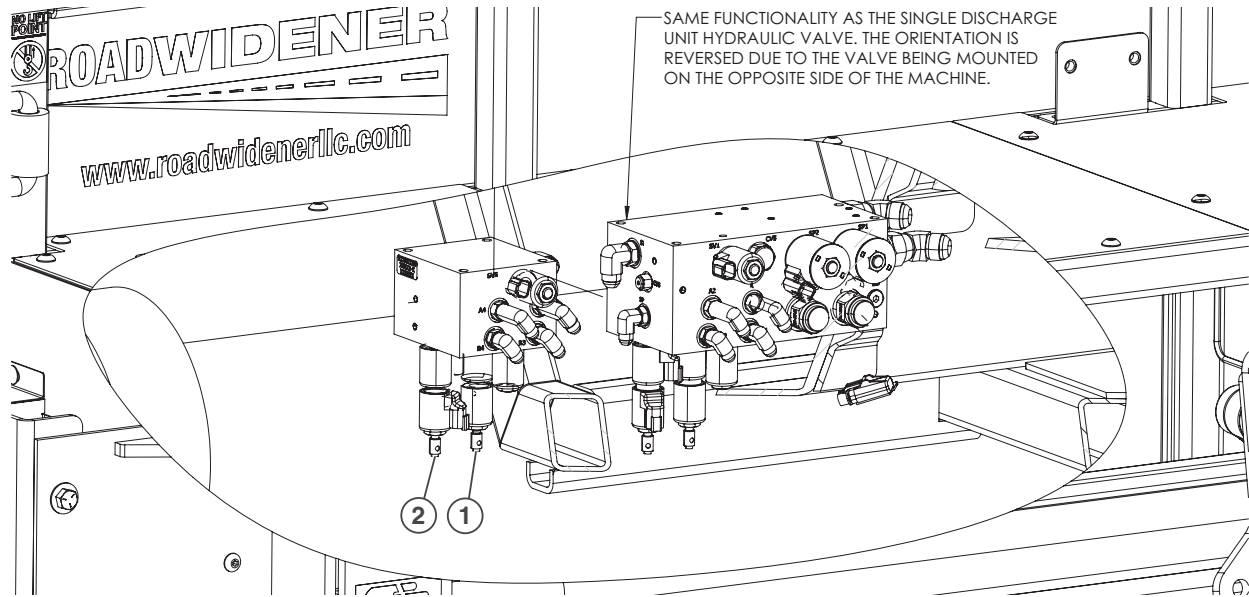
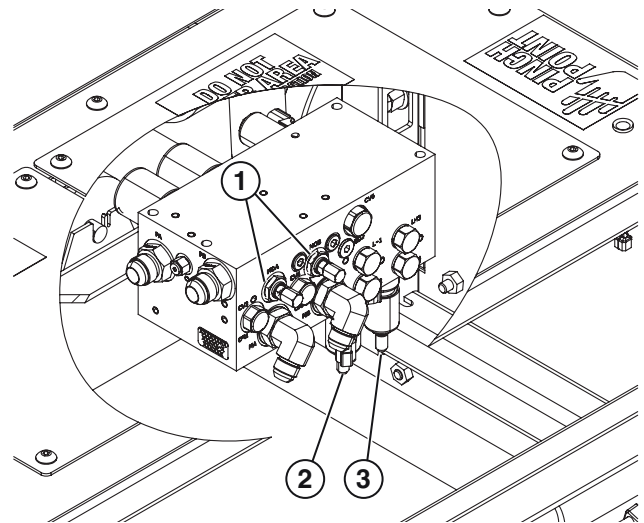

Figure 51: Secondary Dual Discharge Unit Hydraulic Valve
Figure 52: Single Discharge Unit and Primary Dual Discharge Unit Hydraulic Valve
NOTE: There are two potential hydraulic valves used in this position shown in Figures 52 and 53. Visually inspect machine to determine which valve is present.
- 2] Locate the solenoid that controls the function that needs to be overridden by referencing Figures 51, 52 and 53.
- 3] To override the conveyor motor, for the hydraulic valve pictured in Figure 52, the MOA/MOB components are needle valves that will allow the flow of hydraulic oil when opened (they are normally closed). Remove the cap/cover and loosen the jamb nut to operate the needle valves (counterclockwise to open; clockwise to close). For the hydraulic valve pictured in Figure 51, turn the red knurled knob located at the indicated position to open the valve.